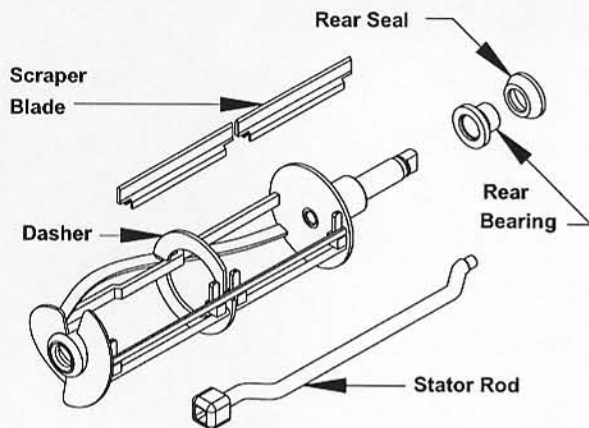

Fig. 13
8. Remove the dasher assembly (Fig. 13) being careful not to damage the scraper blades, then disassemble in the following manner: